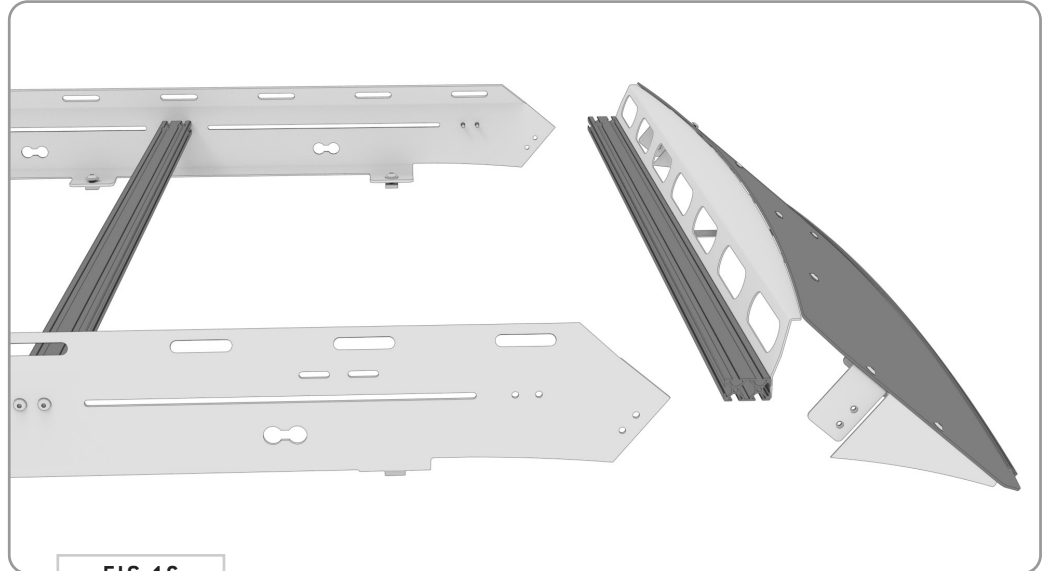
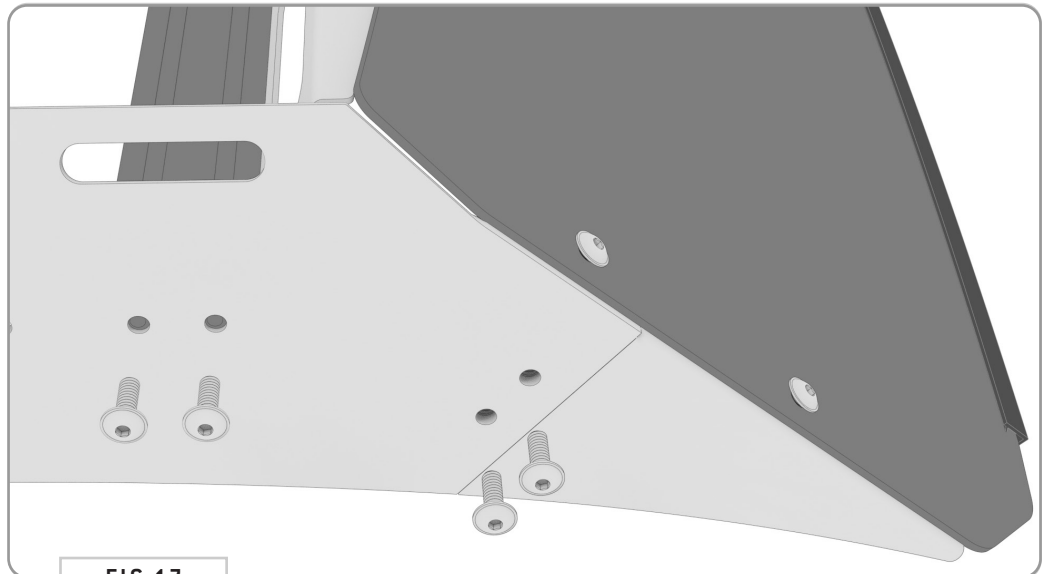

FIG 16
FIG 17
**5.1 Fairing Install:** Now you're ready to attach the fairing to the roof rack. Slide it in from the front and into the location shown in FIG 16. Tighten down using (8) 1/4-20" Flange Head Screws (FIG 17).